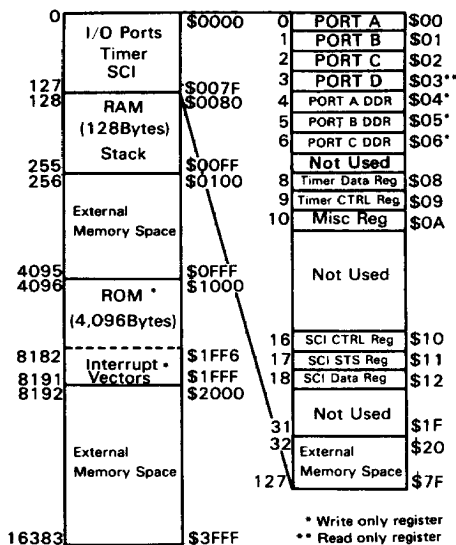
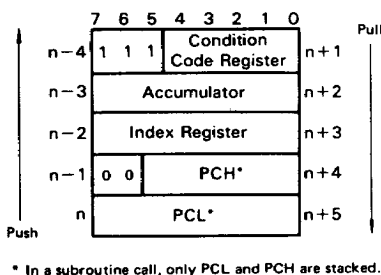

Figure 9 Memory Map of MCU
Figure 10 Sequence of Interrupt Stacking
The memory map of the MCU is shown in Fig. 9. \$1000 ~ \$1FFF of the HD6305X2 are external addresses. However, care should be taken to assign vector addresses to \$1FF6 ~ \$1FFF. During interrupt processing, the contents of the CPU registers are saved into the stack in the sequence shown in Fig. 10. This saving begins with the lower byte (PCL) of the program counter. Then the value of the stack pointer is decremented and the higher byte (PCH) of the program counter, index register (X), accumulator (A) and condition code register (CC) are stacked in that order. In a subroutine call, only the contents of the program counter (PCH and PCL) are stacked.